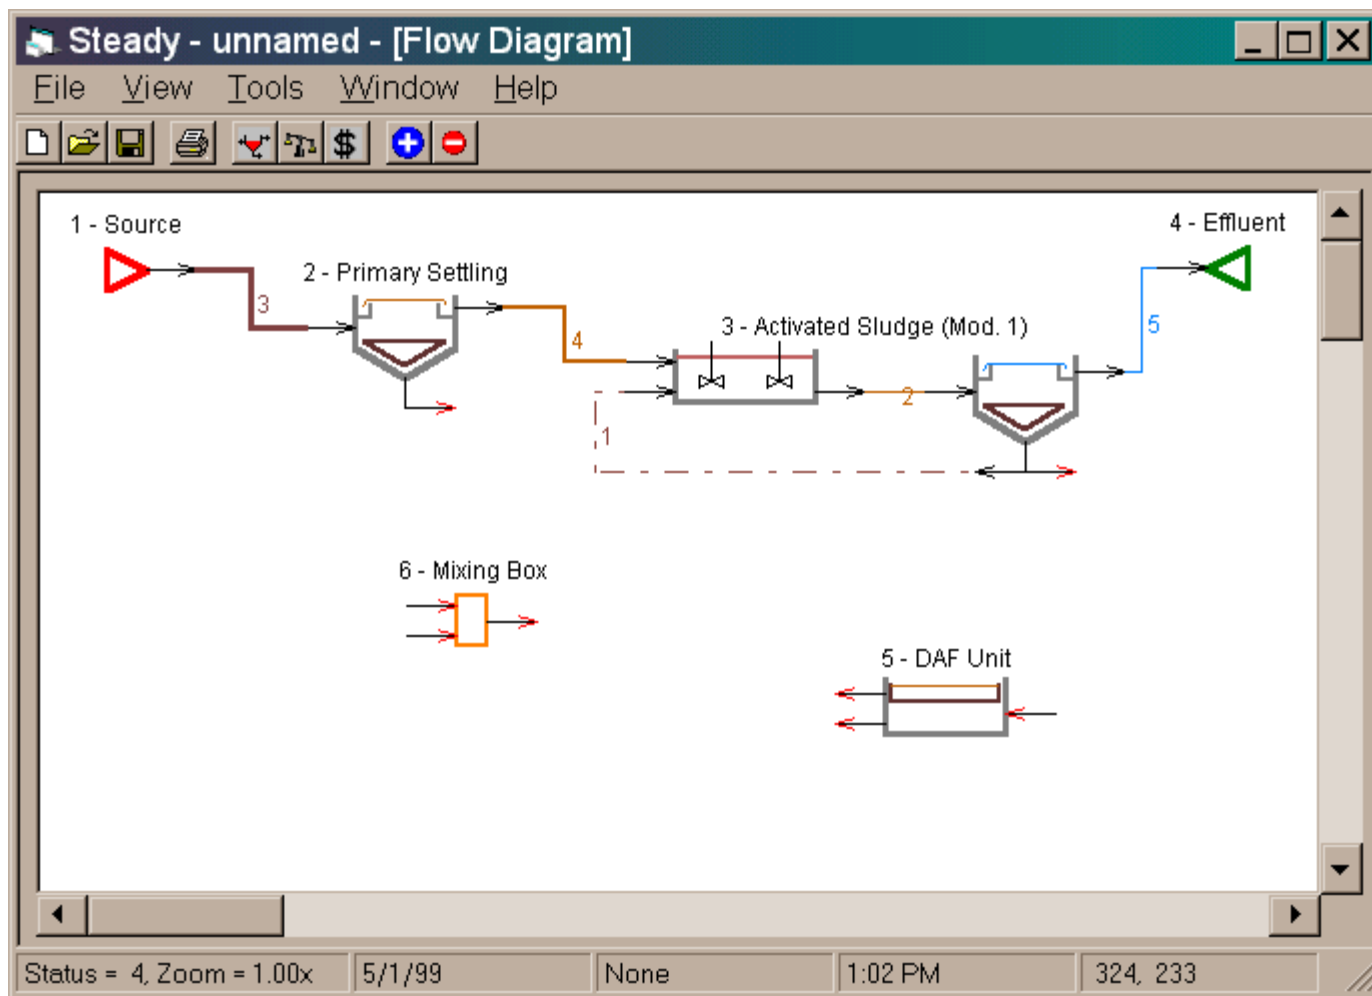

Figure 6 - New DAF Location
13. Now move the unit to a location underneath the Activated Sludge system. First move the cursor over the DAF icon, then press the **left mouse button** and move the mouse without releasing the button. When you release the button the DAF icon will move to the new location. Your flow diagram should now look like Figure 6.